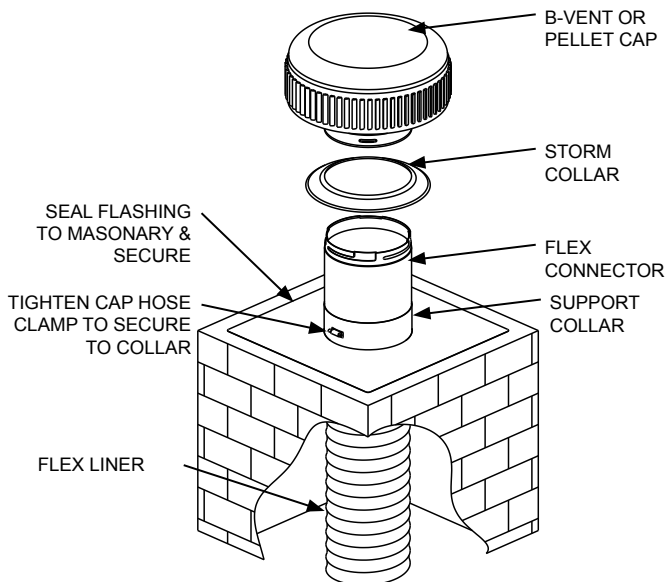

FIG. 18
Step 3: Slide the Top Plate over the Flex Connector and seal the top plate to the masonry chimney (See **FIG 18**). Secure flashing to chimney with suitable anchors.
Step 4: Attach Flex Connector to support collar using collar hose clamp and secure by tightening (See **FIG 18**).
Step 5: Slide storm collar over Flex Connector so that it rests upon support collar. Secure and seal (See **FIG 18**).